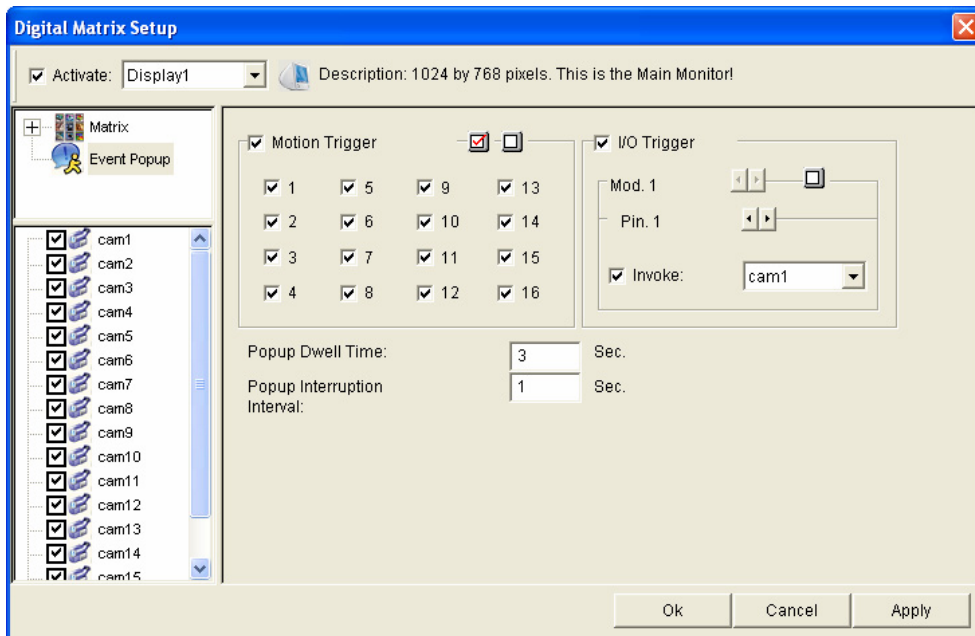

Figure 3-37
2. To configure pop-up alert, in the upper left column, click **Event Popup**. Figure 3-37 appears.